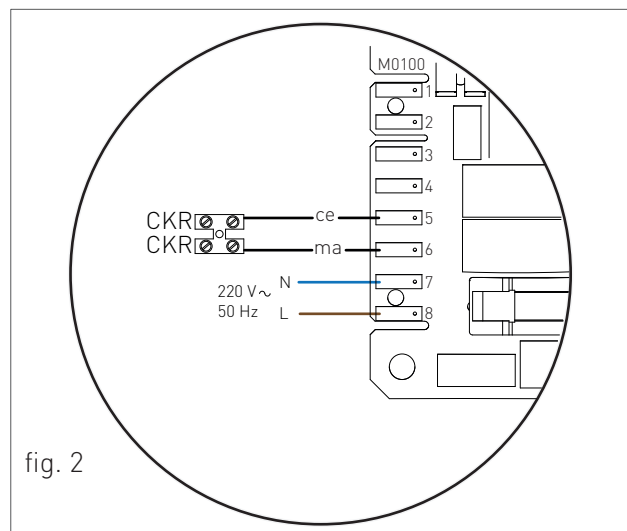

fig. 2
For water heater positioning, proceed as follows (see fig. 2):
to the 'CKR' contacts of the terminal block (see fig. 2).
- › Insert the fumes analyser probe in the suitable 'PF' fumes inlet (fig. 1), then make sure that the CO₂ value complies with the requirements indicated in chapter "Technical data", otherwise unscrew the protection screw 'A' (fig. 2) and adjust using a 4 Allen wrench the screw '2' (fig. 2) of the Off-Set adjuster. To increase the CO₂ value, turn the screw clockwise and vice-versa if you want to decrease it.
- › Once completed the adjustment, tighten the protection screw 'A' (fig. 2) on the Off-Set adjuster.